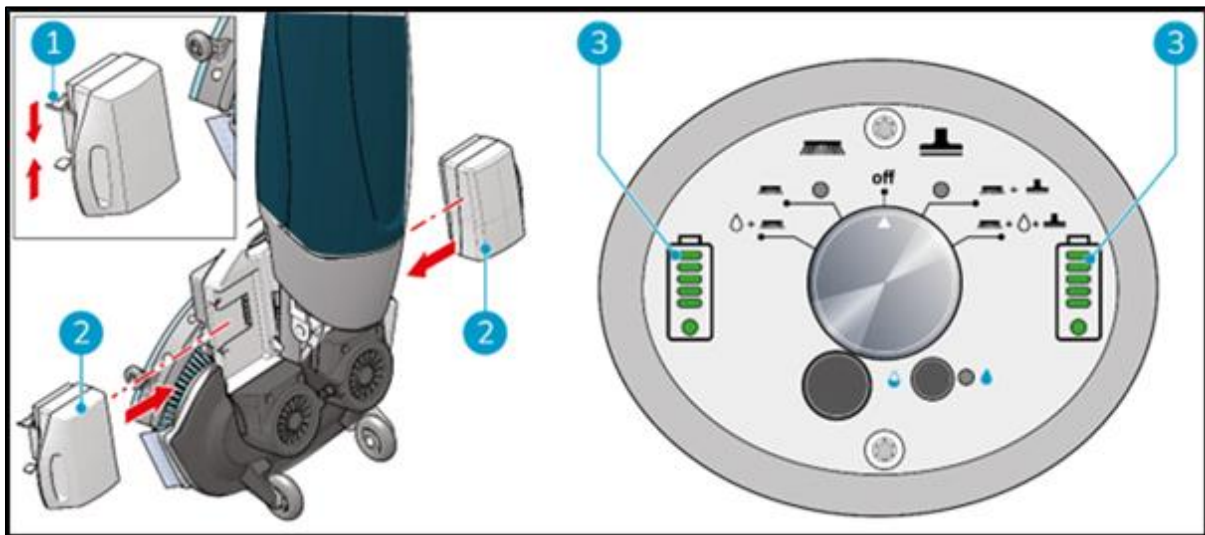

Figure 14
1. Push the blue coded battery (Figure 14, pos 2) in the blue battery slot. A click indicates that the battery is locked in place (Figure 14, pos 1).
3. During operation, the battery indicators (Figure 14,, pos 3) on the control panel show the amount of power left.